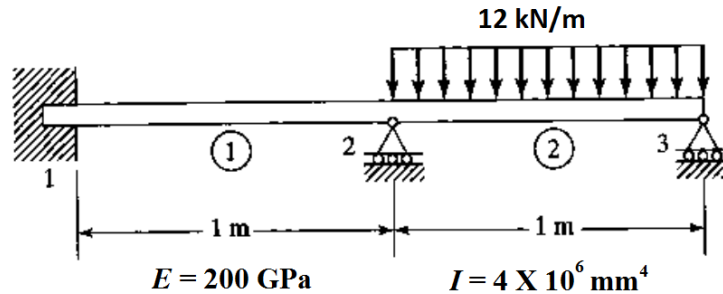

Figure 4
4. For the beam shown in the figure 4, determine the slopes at node 2 and node 3 and vertical deflection at the midpoint of the distributed load.